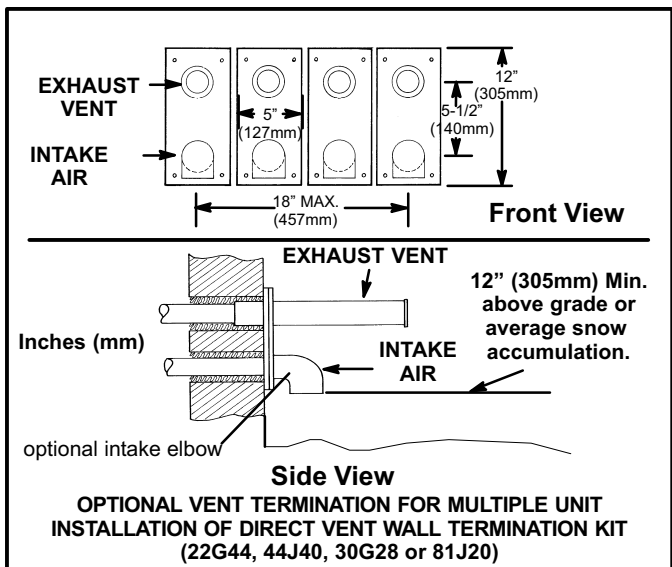

FIGURE 36
- A multiple furnace installation may use a group of up to four terminations assembled together horizontally, as shown in figure 36.